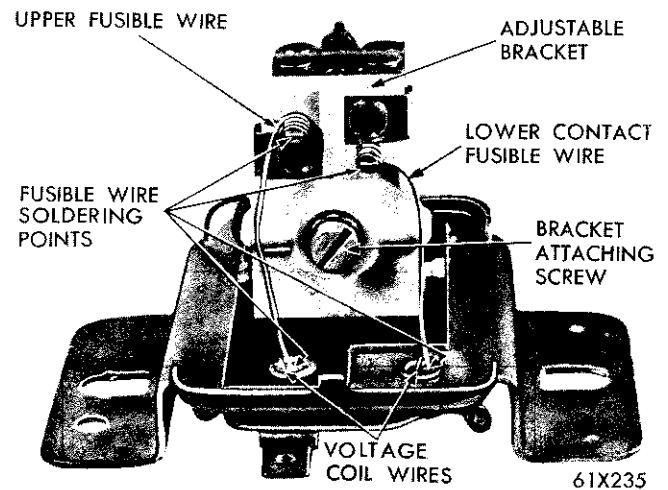

Fig. 26—Voltage Regulator Fusible Wires
(1) When the battery line voltage is relatively low, the current flow through the voltage coil will be low. The magnetic force (or pull) of the voltage coil will not be great enough to overcome the regulator armature spring tension, which is holding the armature contact against the upper stationary contact (Fig. 26).